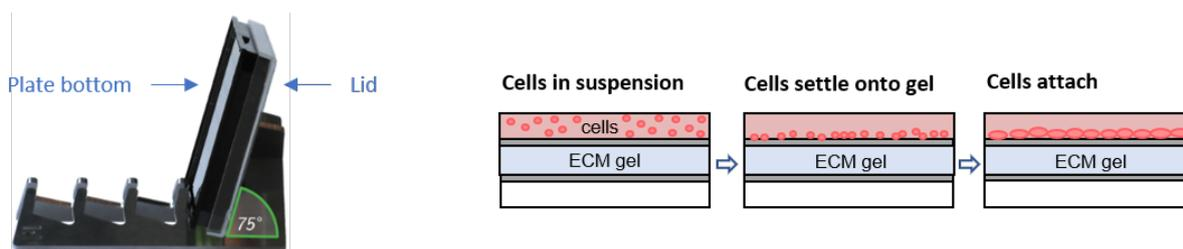

Figure 6: Incubate the OrganoPlate® on the side to allow cells to attach to the ECM gel
8. Place the OrganoPlate® on its side in the MIMETAS plate stand in the incubator to allow the cells in the top channel to settle onto the ECM gel and attach (see figure 6).